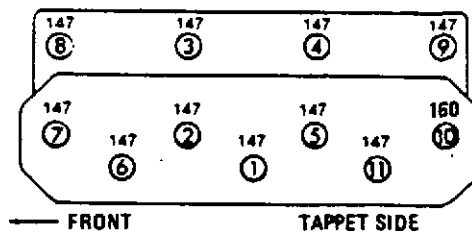

Figure 5-20. Cylinder Head Nut Tightening Sequence, and Torque Values
6. Install the cylinder head nuts (27, 29, and 31) and washers (28, 30, and 32). Tighten evenly, working from the center of the head outward. Refer to figure 5-20 for tightening sequence, torque, and procedure for tightening cylinder head to cylinder block. Tighten all nuts first to 75 foot-pounds torque in the sequence indicated, then 125 foot-pounds torque and so forth.